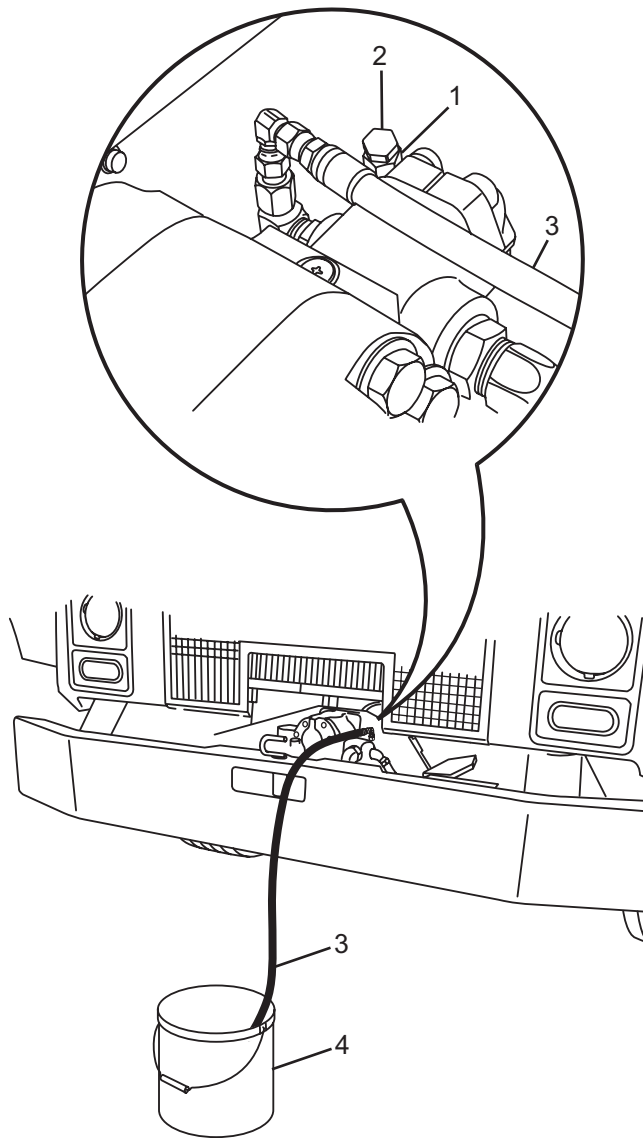

Figure 34
1. Clean the flow control. Disconnect the sense line (Figure 34, Item 1) at the flow control. Be careful not to let contaminants such as dirt or paint chips in.
2. Install a plug (Figure 34, Item 2) in sense line.
3. Install a shop test hose (Figure 34, Item 3) to the flow control.
4. Place end of shop test hose in large container (Figure 34, Item 4).